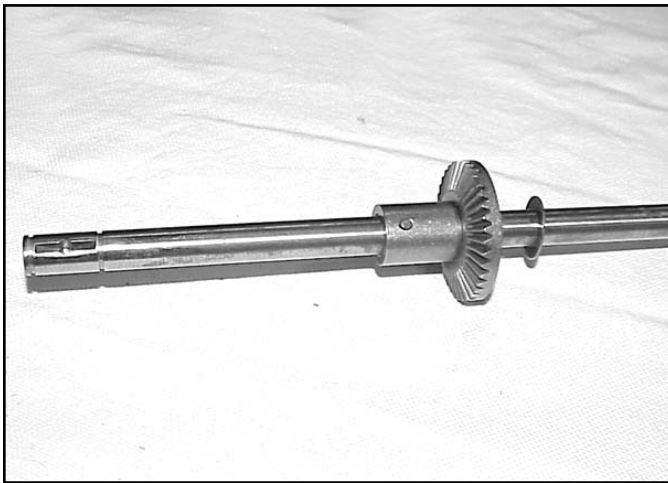

Fig 084
Rear wheel drive models use the hole about 4-3/4" (12cm) from the end. Slip the gear on such that the teeth and the longest hub face the short end of the axle. Drive the pin into place. A double check is that neither of the pin holes should be visible when the gear is installed (Fig. 084).
2. Install the thrust washer on the side of the gear with the shortest hub, away from the gear teeth (Fig. 084).